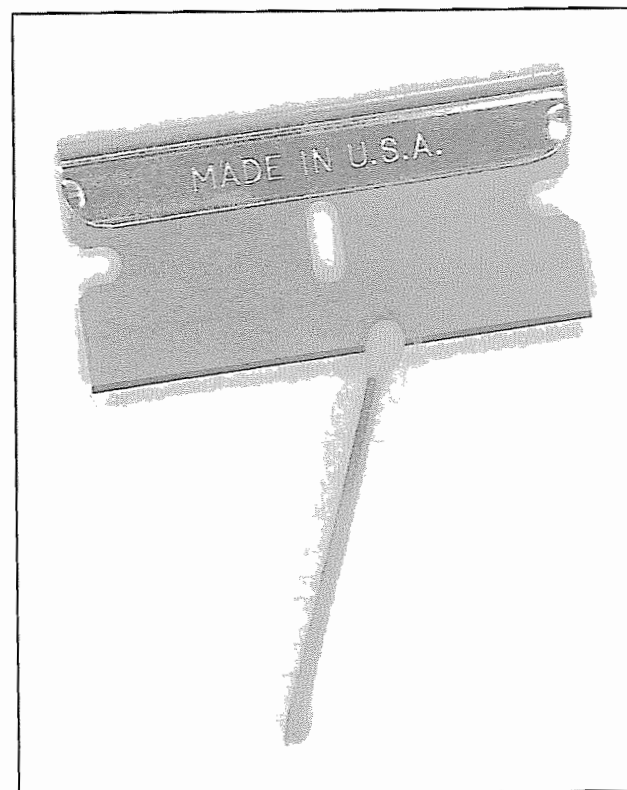

Figure 17-5. A single edge razor blade cuts a slit in the tip of the paper match.
3. With a single edge razor blade, cut a slit in the tip of the paper match (Figure 17-5). If the match tip crumbles when you cut it, throw away the crumbly match. Hold a *new* match up to your mouth, and breathe on it for 30 seconds. The moisture in your breath will soften the tip, and the composition on the tip will then cut cleanly and smoothly. Fold the wire assembly that you made in **step 2** down over the match so that the fuse wire passes through the slit in the match's tip, and the two lead wires are separated by the match's paper stem (Figure 17-6).